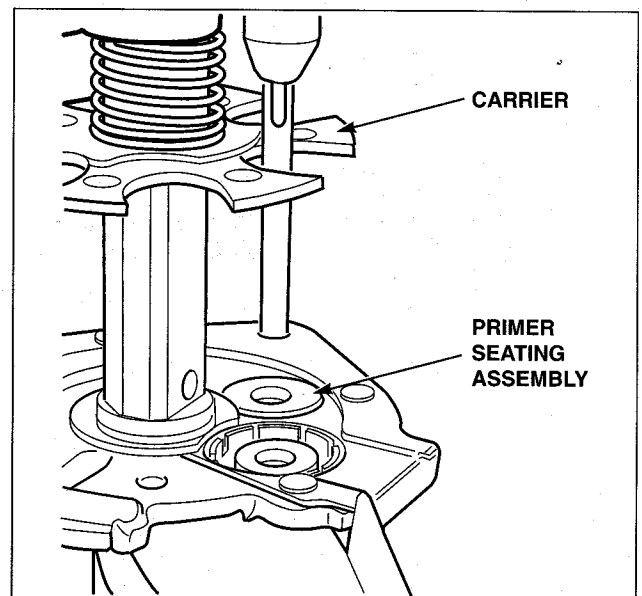

Figure 45
5. Remove the primer seating assembly, Figure 45.